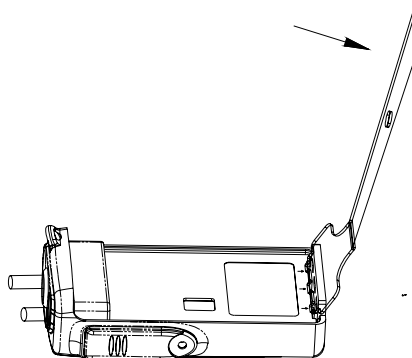

Fig.3
- c. Lift the bottom of the chassis and pull it out of the PCB. (See fig.3)